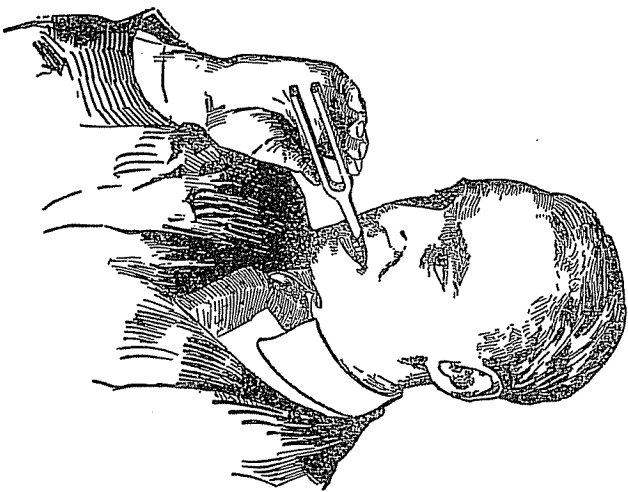

FIG. 10
**Experiment No. 7.** Pick up a vibrating tuning fork and place the base of it between your teeth and feel the vibration. (See Figure 10.) Now take the tuning fork and set it in vibration